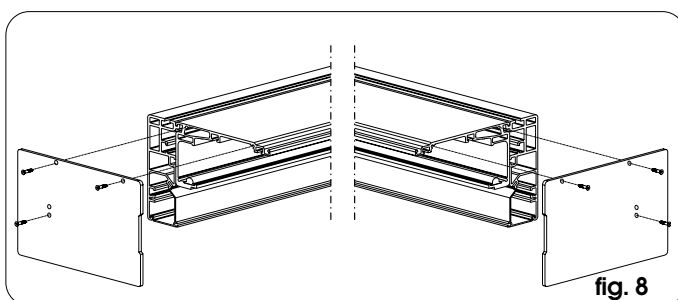

fig. 8
• Fit the side panels as shown in figures 8 and 9.